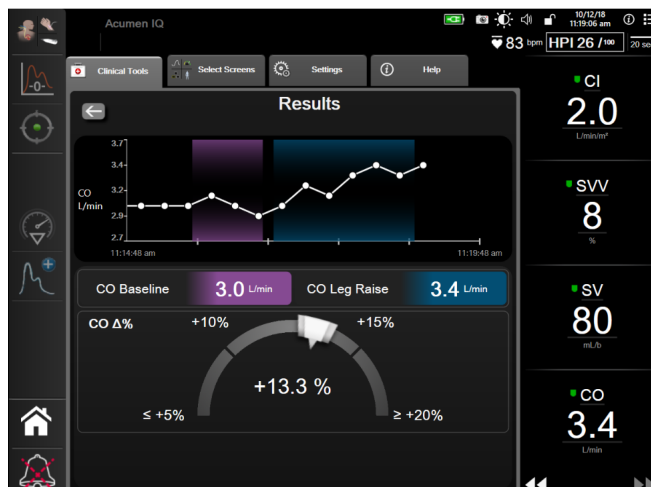

Figure 14-12 Fluid Responsiveness Test – Results Screen
- At the conclusion of the test, the change in the selected **Parameter** value as a response to the fluid challenge will be displayed. See Figure 14-12. Touch the return icon to perform another test, or the home icon to return to the main monitoring screen.
- 9 At the conclusion of the test, change in the selected **Parameter** value as a response to the fluid challenge will be displayed. See Figure 14-12. Touch the return icon to perform another test, or the home icon to return to the main monitoring screen.